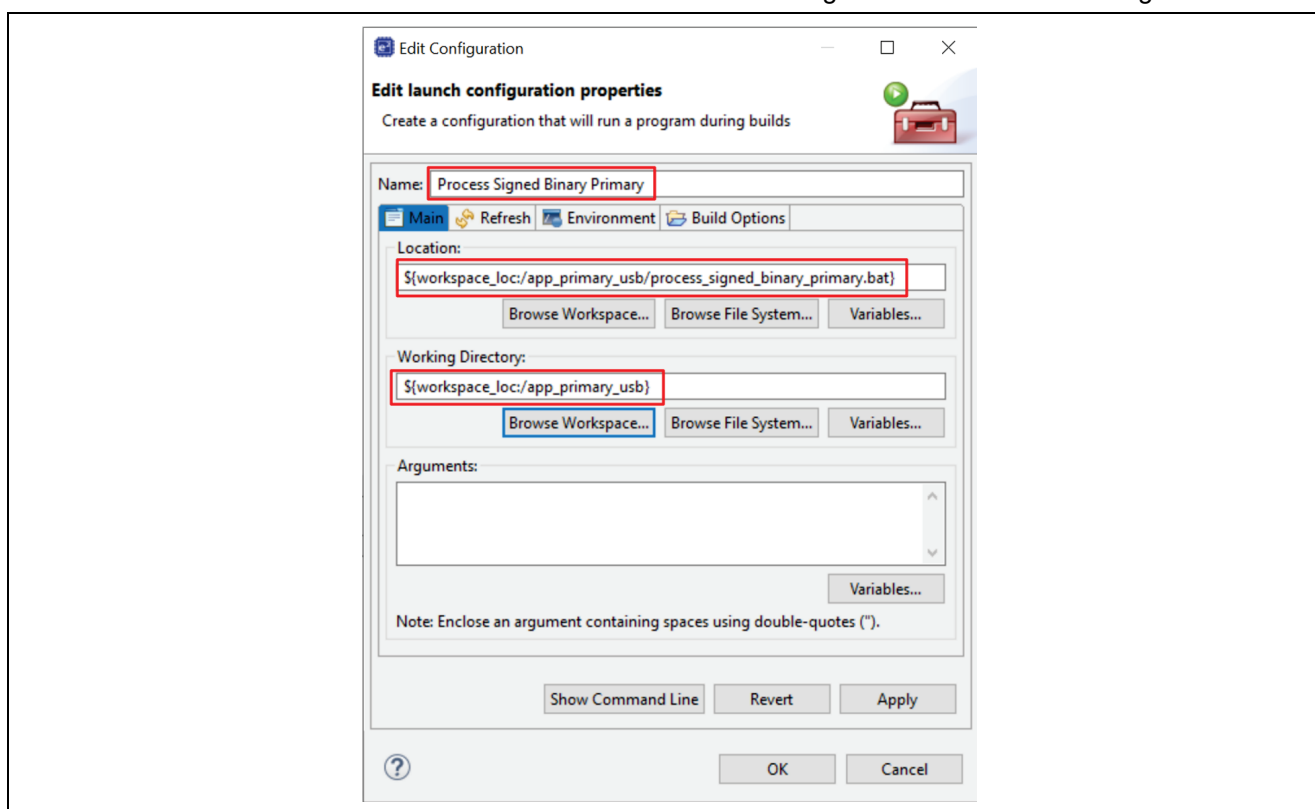

Figure 50. Configure the Custom Builder for the Primary Application
2. Follow section 4.7 to create the new **Builder**. The finished configuration should look like Figure 50.